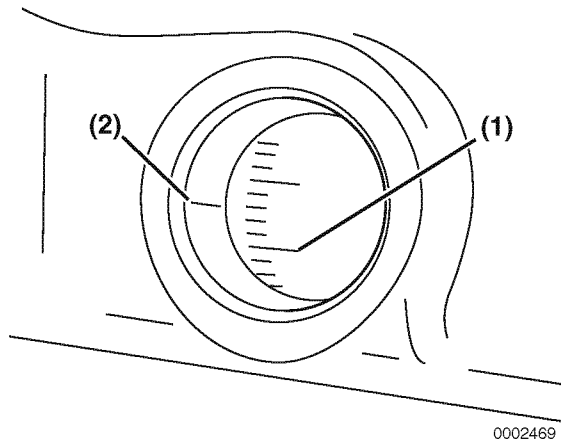

Figure 7-25
2. Determine if the timing is “advanced” or “retarded” by comparing the position of the target timing mark on the flywheel grid (**Figure 7-25, (1)**) with the timing mark on the flywheel housing or back plate (**Figure 7-25, (2)**).